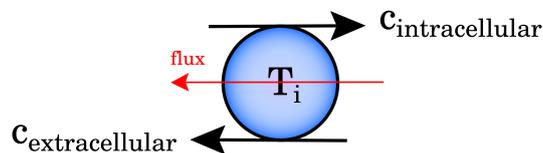

Figure 5: Flux direction for a protein channel. It is always assumed to be positive from intracellular environment to extracellular environment.
- Check the flux direction for the channel, make sure it is correct. Be consistent, set a standard for the model and document it in the model description (Figure 5).